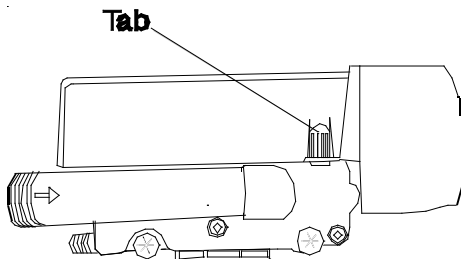

Figure 10
3. Remove the rear cover by depressing the two tabs provided on the cover, Figure 10. Lift the front of the cover and remove to expose the valve body.